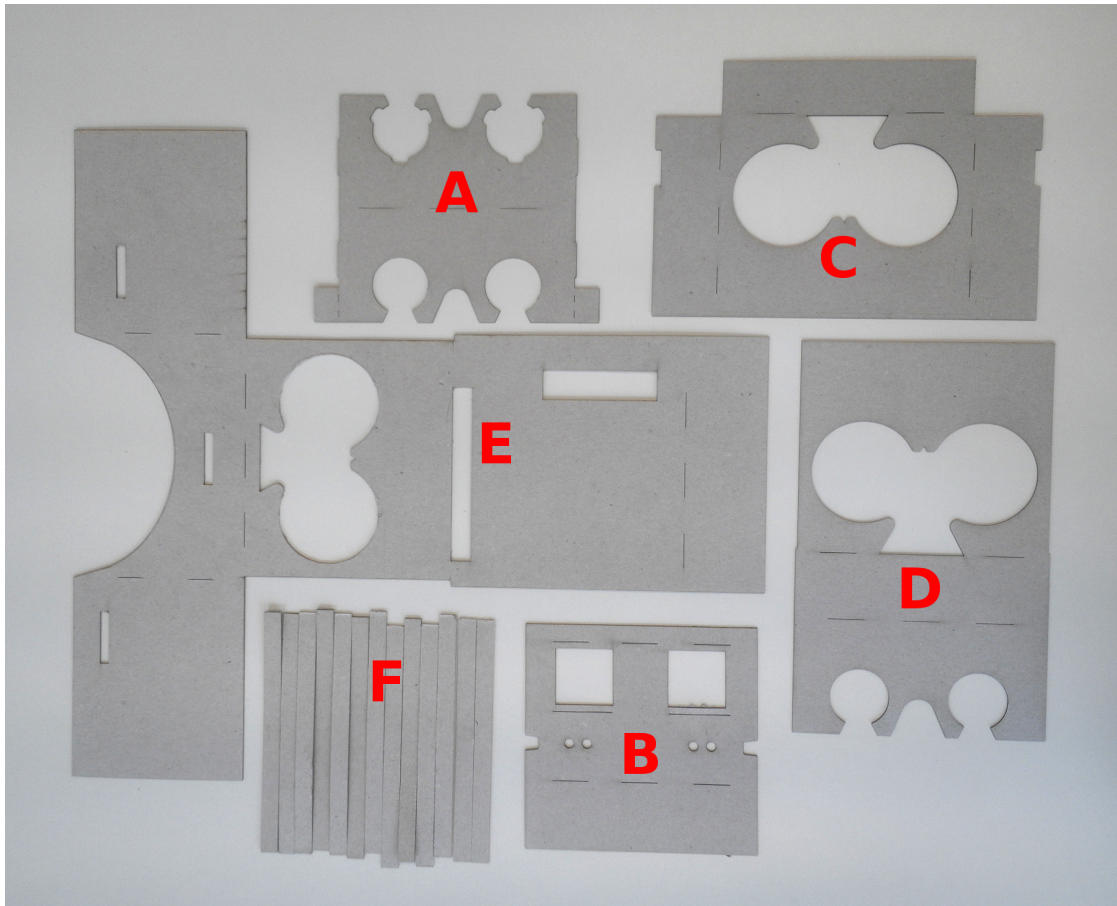

Figure 1.0.1: Cardboard pieces from A to F
1. Lay the previously cut parts in front of you (see figure 1.0.1). You should have five individual parts (A to E) and six times the part F.